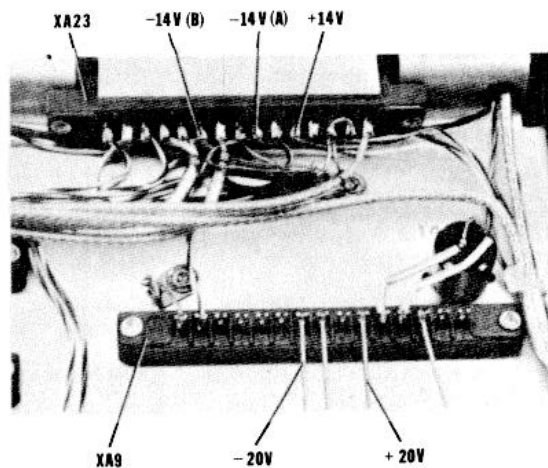

Figure 5-3. Power Supply Test Points
- b. Check other power supply voltages listed below (see Figure 5-3 for test points).
-14 +1 V (A)	XA23(9)
-14 $\pm 1$ V (B)	XA23(6)